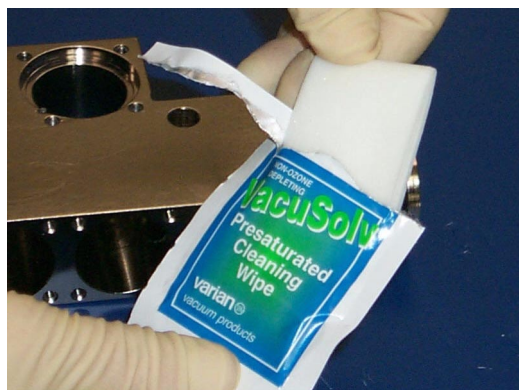

Figure 5-22 VacuSolv Cleaning Wipe
28. Using the VacuSolv presaturated cleaning wipes and swabs (Figure 5-22), thoroughly wipe down all surfaces of the spectrometer tube body, magnetic pole pieces, and ground slit plate.